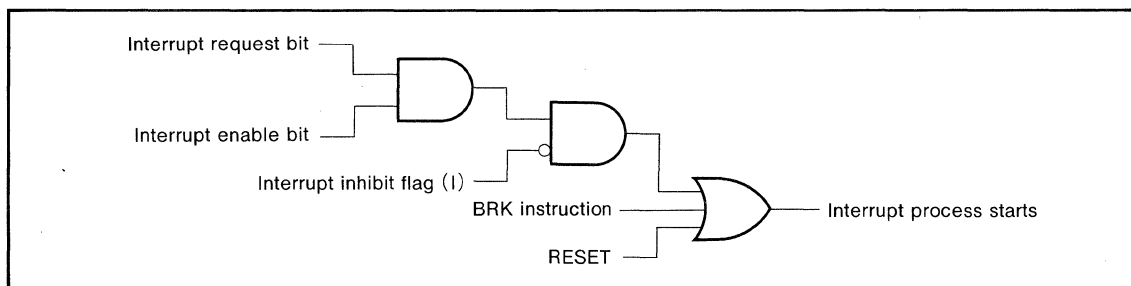

Fig. 2.5.1 Interrupt control
The interrupt control model for M37450 is shown in Figure 2.5.1.
The interrupts for M37450, as shown in Figure 2.5.1, are controlled by the interrupt request bit, interrupt enable bit, and interrupt inhibit flag (I) except the software interrupt by BRK instruction.